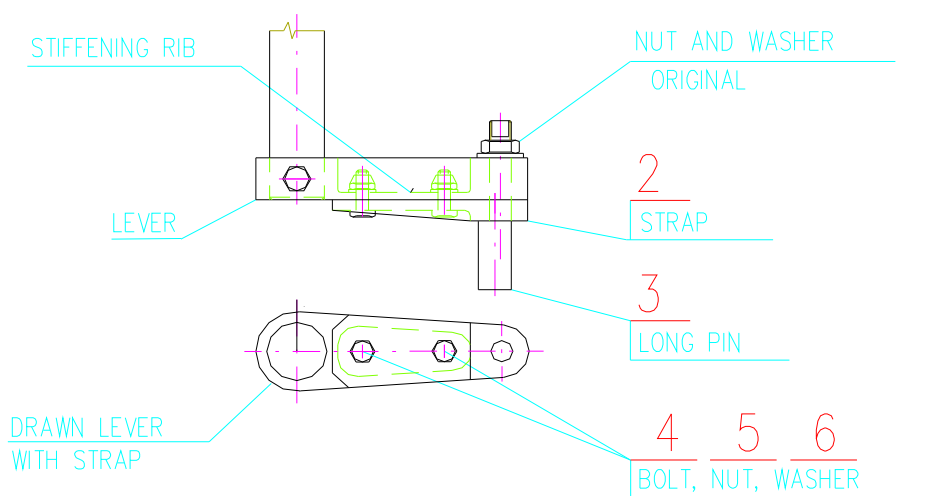

Fig. 9
7. Put the new strap, pos. 2, on the new pin, pos. 3, according to Fig. 9.